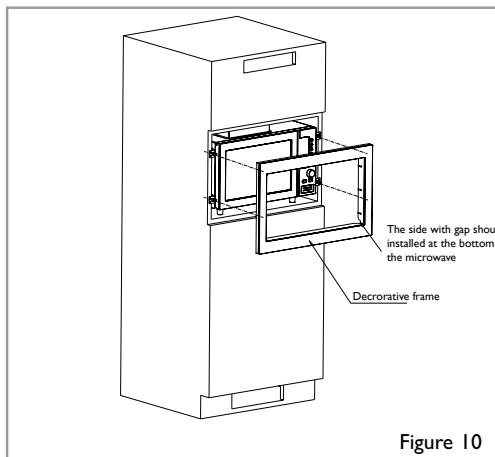

Figure 10
d) Secure the decorative frame into the fixing brackets, which have already been fixed in place on the microwave. As shown in figure 10.